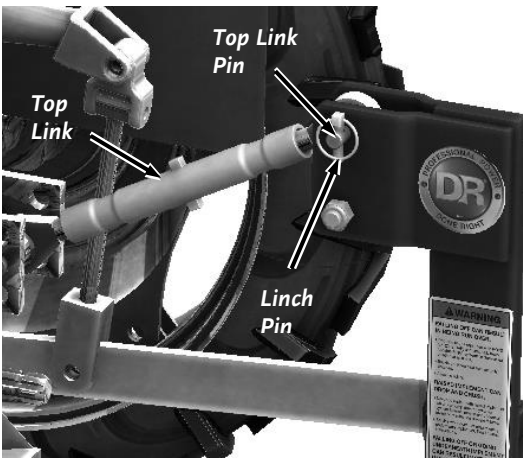

Figure 8
5. Insert the Top Link Pin into the aligned holes and secure with the Linch Pin (**Figure 8**).